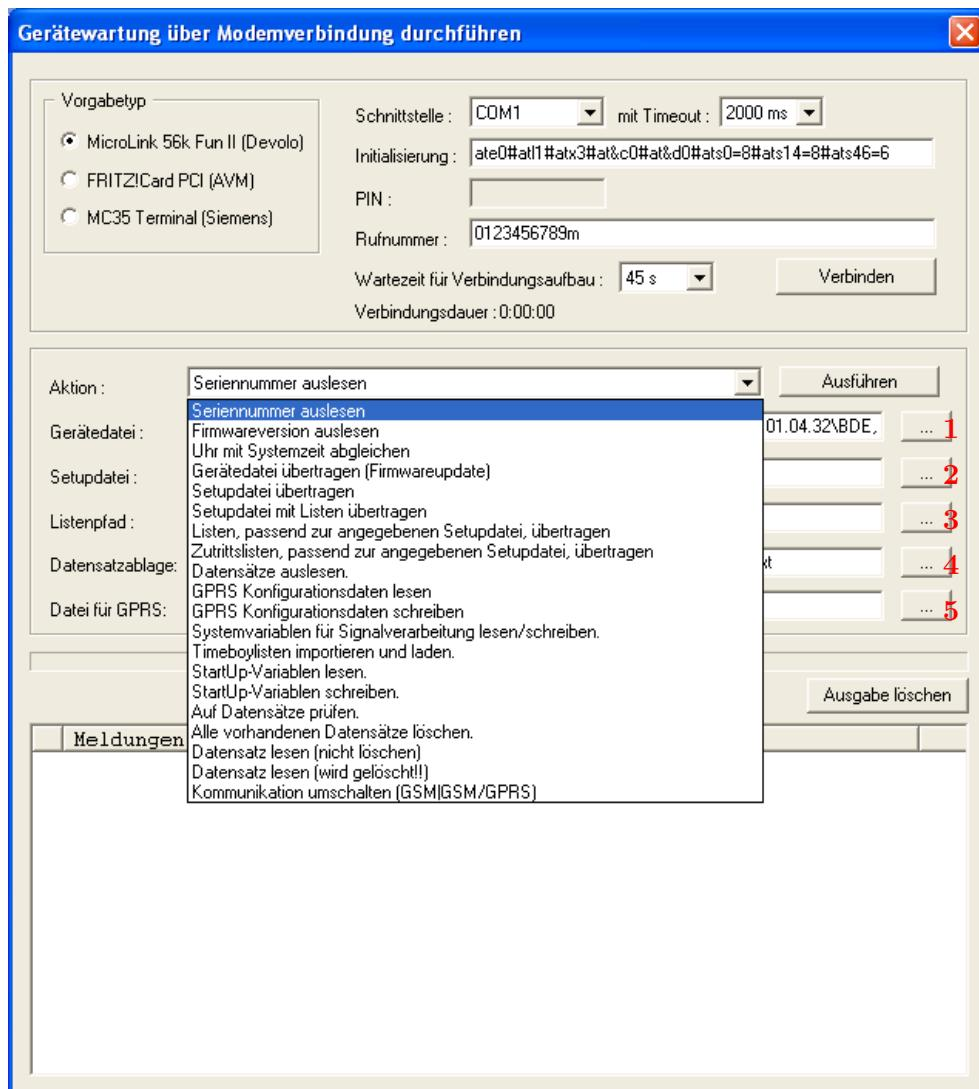

Figure 72: Device maintenance via modem connection
- ▶ Transmit device file (firmware update) - Via the button 1 in figure 72 a dialogue opens where you can select the device file with the extension ".hex". When you have marked the file, you can take it over via the button "Open".
- ▶ Transmit setup file - Via the button 2 in figure 72 a dialogue opens where you can select the setup file with the extension ".aes". When you have marked the file, you can take it over via the button "Open".
- ▶ Transmit setup file with lists - Via the button 3 in figure 72 a dialogue opens where you can define the folder (path) that contains the list files.
- ▶ Transmit lists matching to the given setup file - Only the list data of the button (3) are transmitted here.
- ▶ Transmit access lists matching to the given setup file - Here the access lists have to be assigned to the button (3)